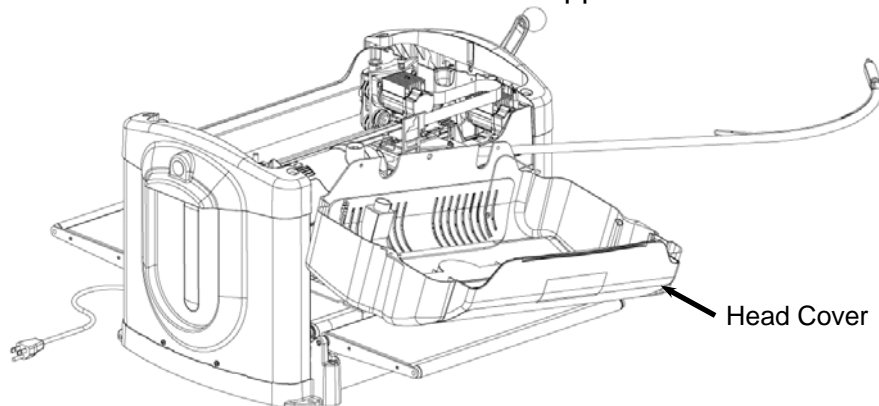

FIGURE 8: EXPLODED VIEW OF THE REMOVED COVER
- Lay the head cover to the side.** With the AC Interrupt Switch Cable still connected, carefully lay the cover onto the back outfeed tray (See Figure 8). Make sure to avoid pulling on the cable during the rest of the repair. You can also lay the cover over the side as shown in **Picture 1** of Appendix A.